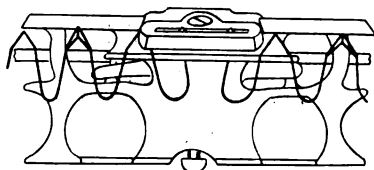

FIG. 1—SAW JOINTER
To make all teeth the same length place the saw in a vise, or, if the filing is to be done in the woods, where no vise is available, place the blade, teeth uppermost, in a notch in a convenient stump, pass a file carefully over the teeth, as shown in Figure 1, until all teeth touch the file. This can readily be determined by the bright, flat tops on the cutting teeth.
2. The next operation consists of filing up the rakers to a keen, sharp edge, using care that their tops shall be square with the side of the blade. It is necessary to point up the rakers in this manner, whether they are to be swaged or not. (Fig. 1.)